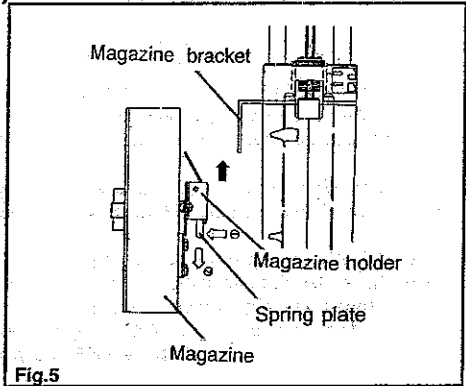

Fig.5
10. Setting up the magazine (Fig. 5)